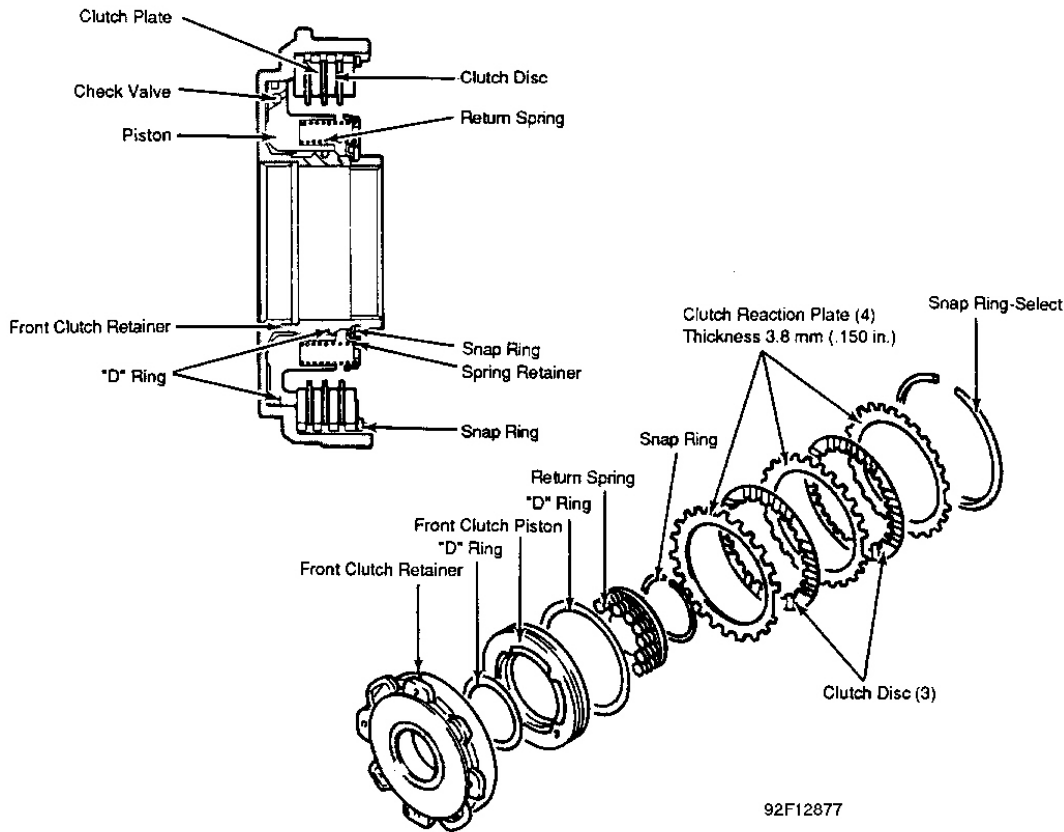

Fig. 25: Exploded View of Front Clutch Assembly
2. Install return spring and spring retainer. See **Fig. 25** . Compress return spring and install snap ring.
3. Apply ATF and install clutch reaction plates and clutch discs. See **Fig. 25** . After installing snap ring check clearance between snap ring and clutch reaction plate. Clearance should be .016-.024" (.40-.60 mm). Selective snap rings are available to adjust clearance.